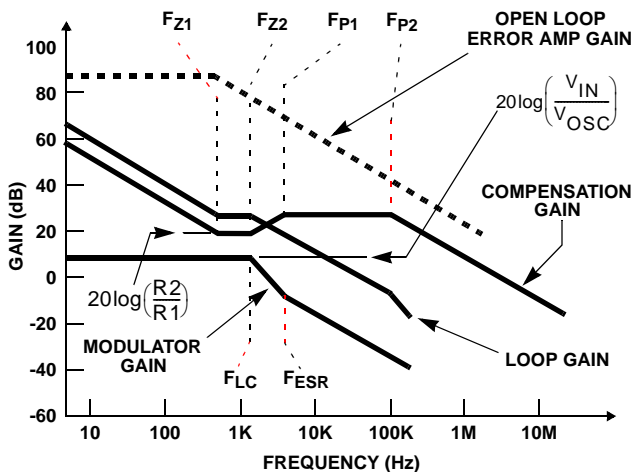

FIGURE 7. ASYMPTOTIC BODE PLOT OF CONVERTER GAIN
Figure 7 shows an asymptotic plot of the DC-DC converter's gain vs. frequency. The actual modulator gain has a high gain peak dependent on the quality factor (Q) of the output filter, which is not shown in Figure 7. Using the above procedure should yield a compensation gain similar to the curve plotted. The open loop error amplifier gain bounds the compensation gain. Check the compensation gain at F_{P2} with the capabilities of the error amplifier.